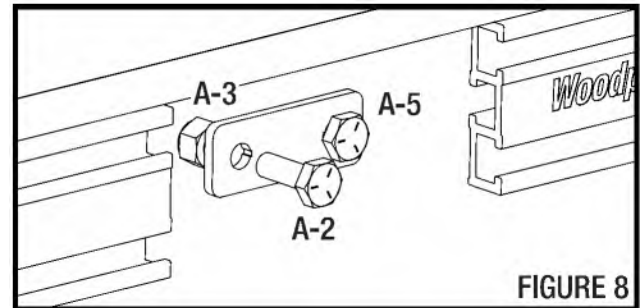

FIGURE 8
3. Install the Track Coupling Plate (A-5) in the single slot on the back side of the T-Slot track, using the Hex Head Cap Screws (A-2) and Nylon Locknuts (A-3), **FIGURE 8.**